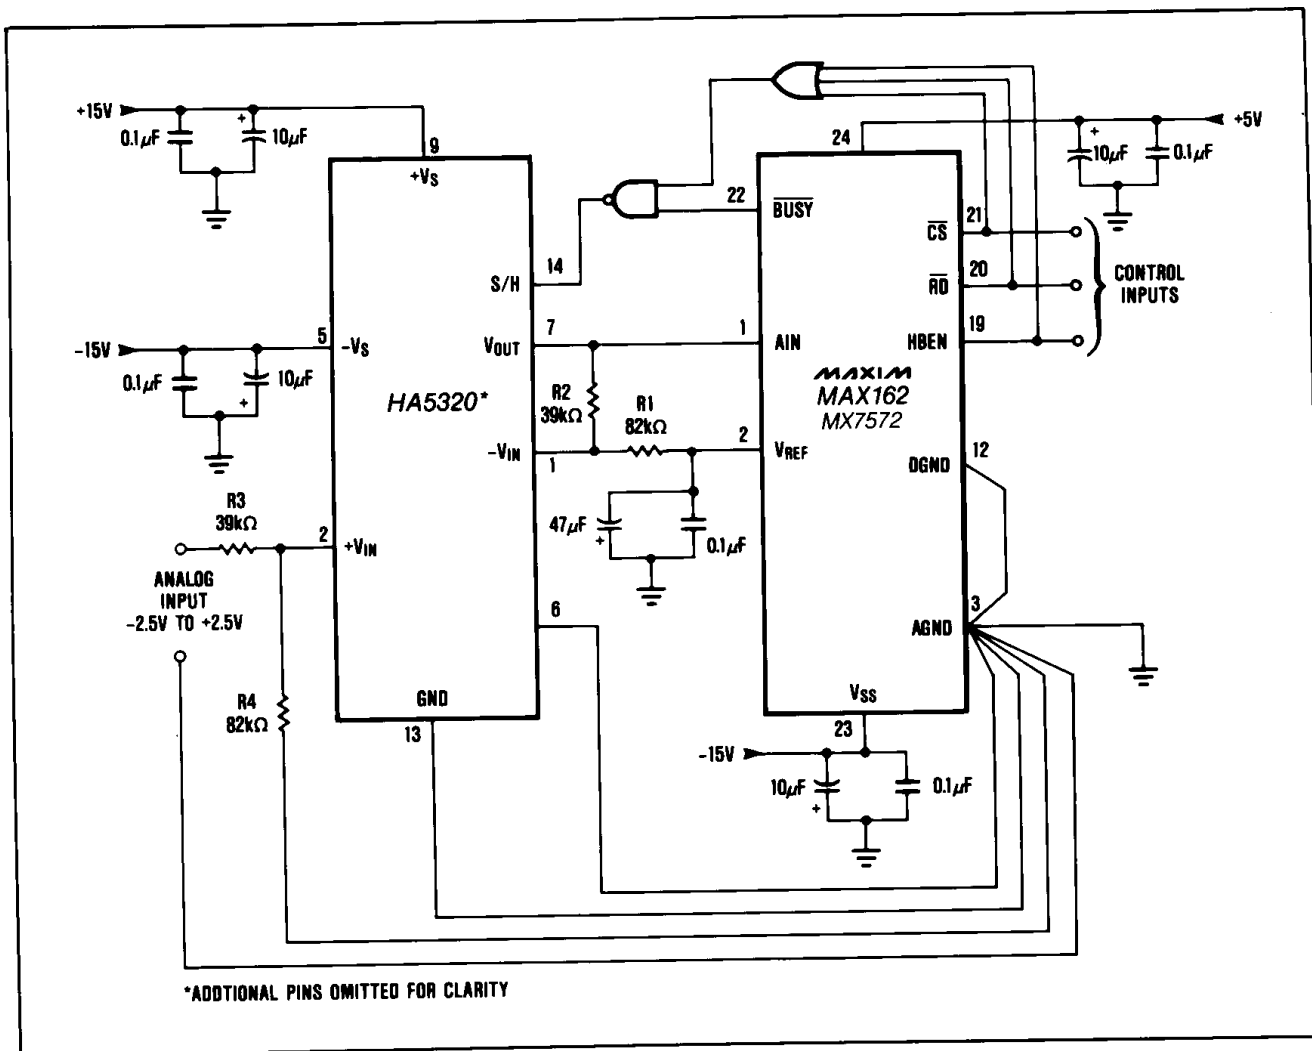

Figure 16. MAX162/MX7572—HA5320 Sample-and-Hold Interface
**MAX162** Figure 16 shows the MAX162 to HA5320 interface. The maximum sampling rate is 210kHz with a 4MHz clock which allows for a  $1.5\mu\text{s}$  acquisition time. The HA5320 can also be replaced by a HA5330 for higher throughput.